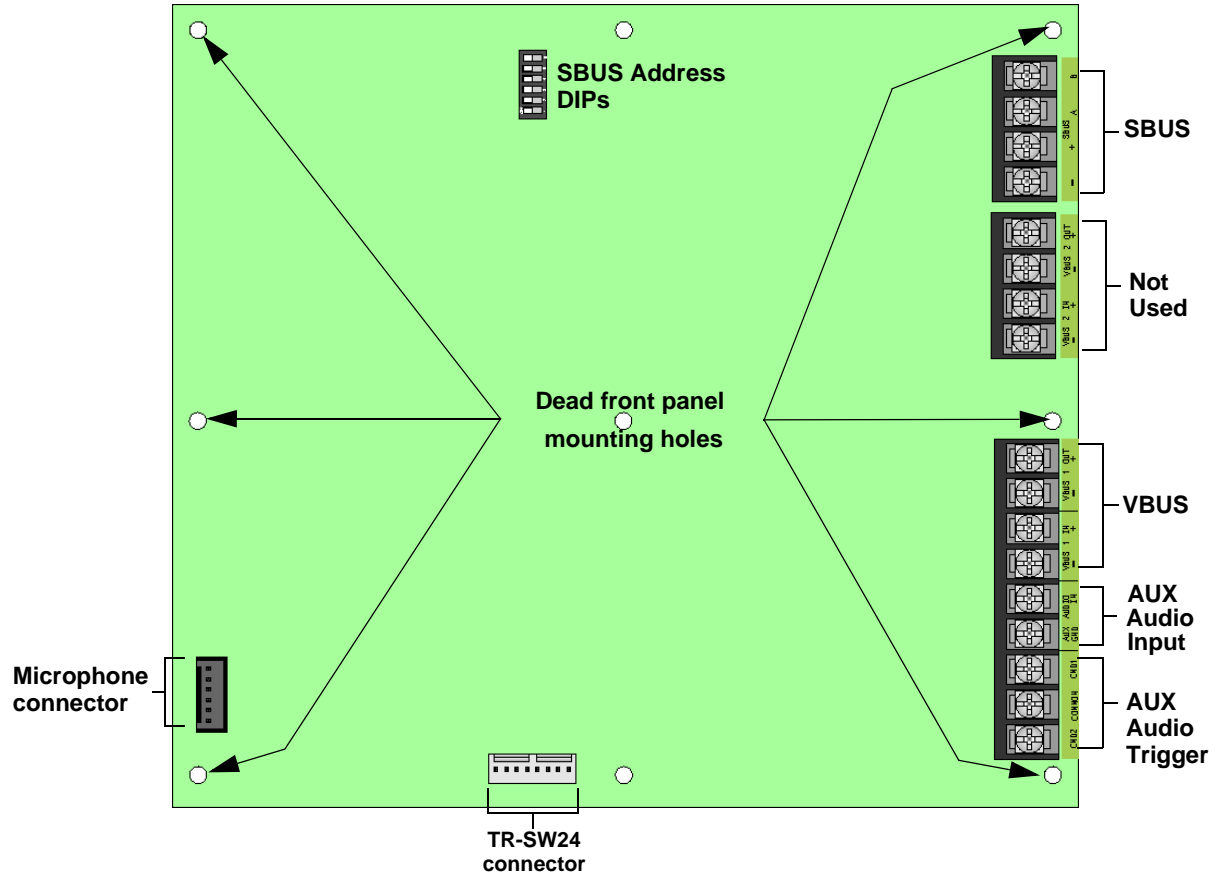

Figure 4.54 Back View of ECS-RVM
The following steps explain how to connect the batteries (refer to Figure 4.54):
3. Disconnect any devices connected to the VBUS. See Figure 4.54.